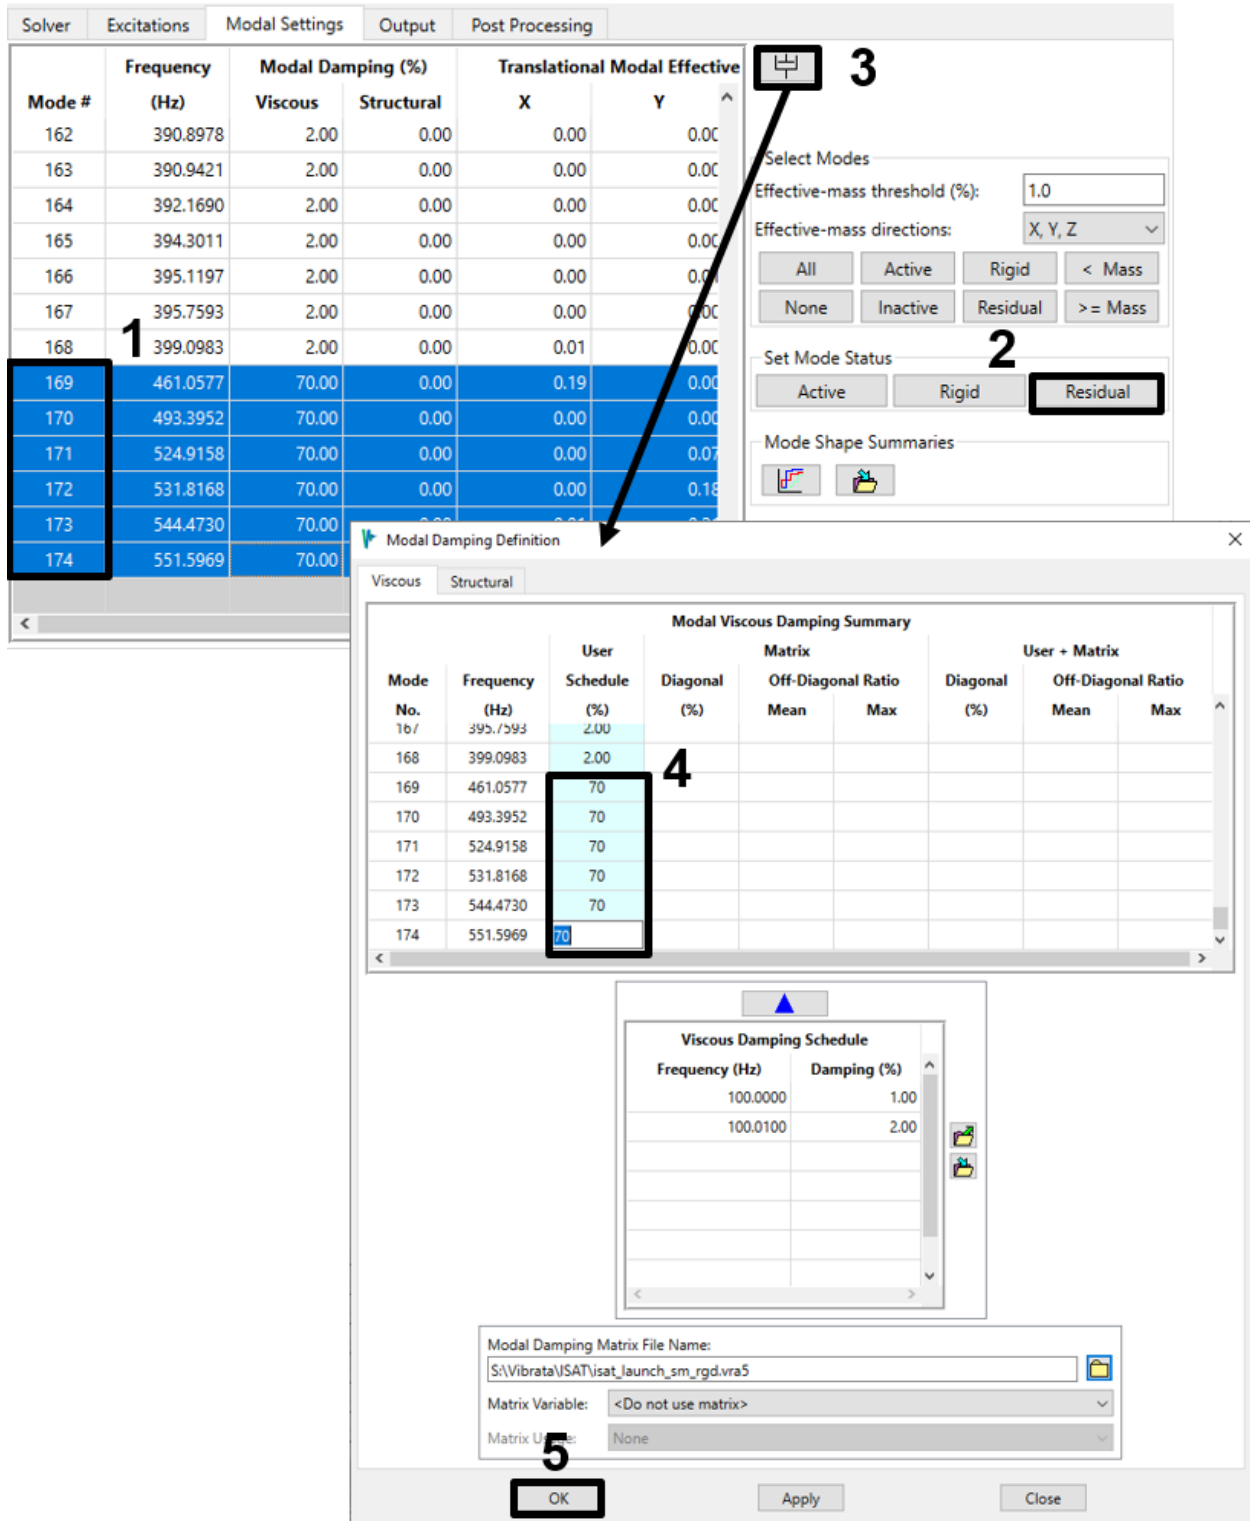

Figure 4-69. Mark the residual vectors as normal modes and set the damping level to 70% so that they behave quasi-statically.
3. Since the FastRMS algorithm does not support residual vectors (section 3.2.6), you must set the residual vectors as normal modes. Add a high damping level of 70% so that these modes behave quasi-statically; doing so emulates how Vibrata treats residual vectors generally. You can override the damping in the Modal Damping Definition table by entering the damping level directly for modes 169–174 (Figure 4-69).